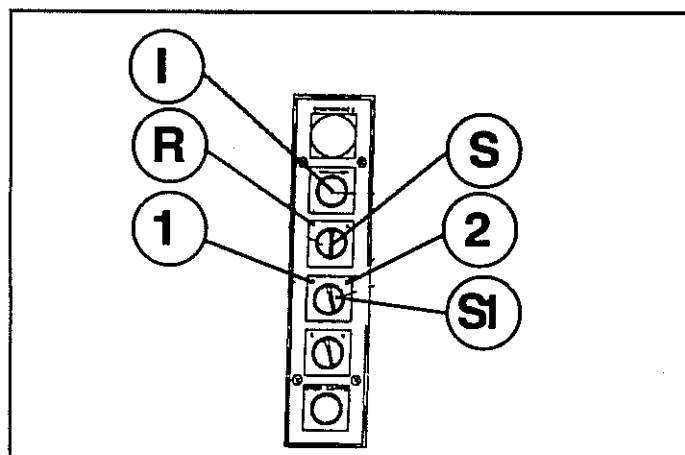

Fig.4.10
- c) Set the blade return by rotating the selector (S) to position (R) and the selector (S1 to 1-2 Fig.4.10)
- f) Push the cycle start button (I fig.4.10).